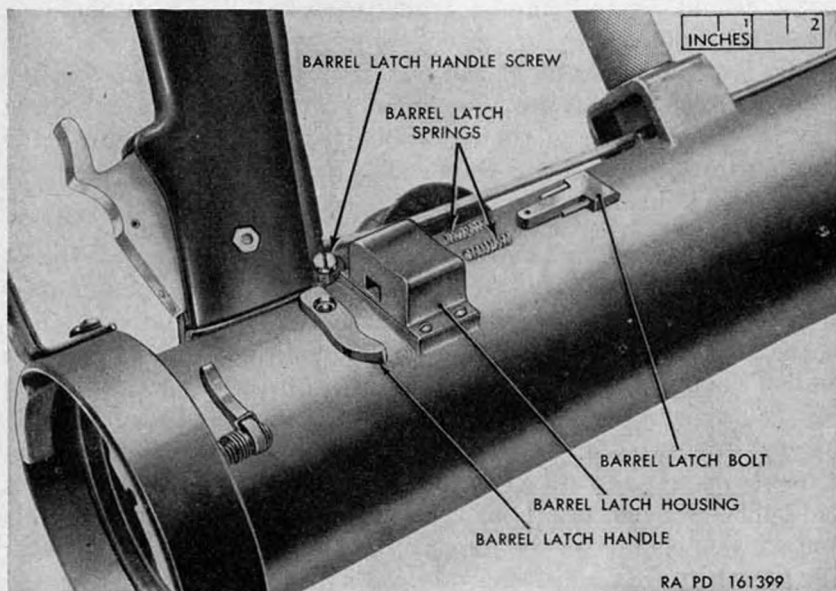
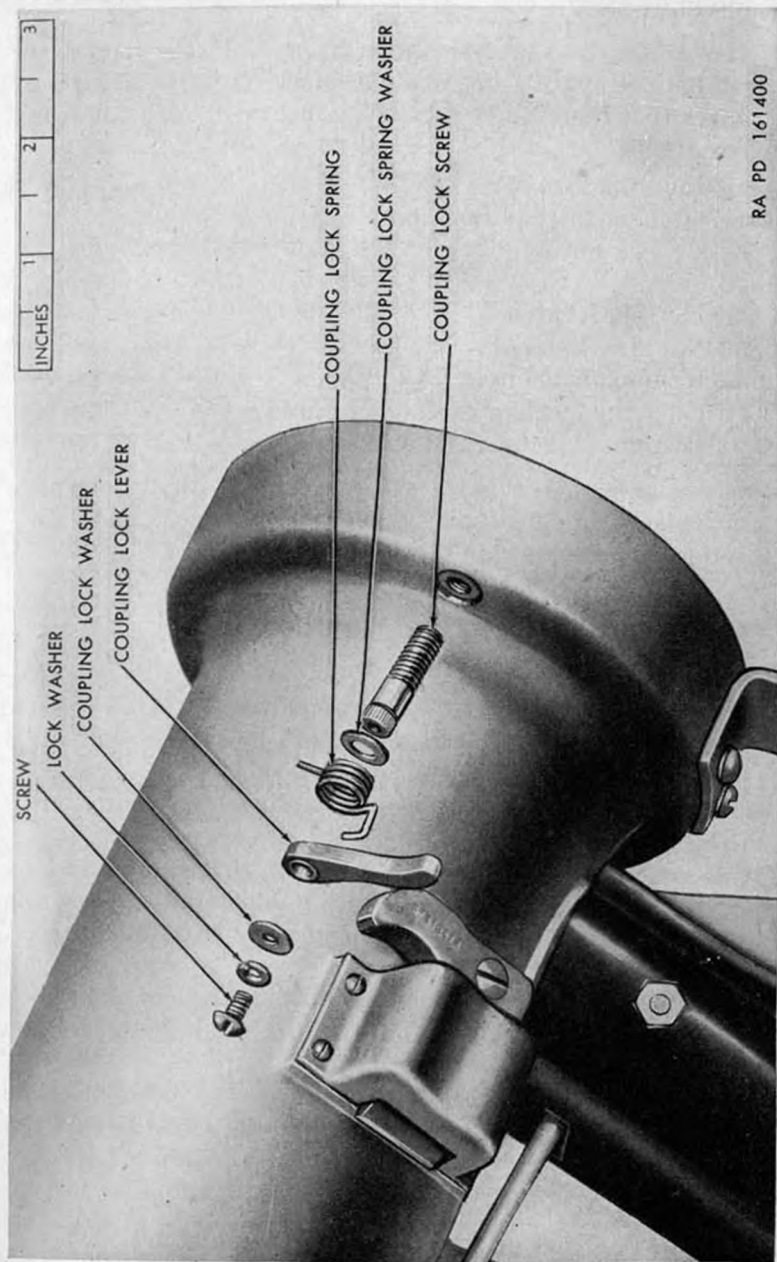

Figure 30. Barrel latch parts.
Figure 31. Barrel coupling lock parts.
b. *Barrel Latch* (fig. 30). The barrel latch bolt operates under spring tension and is housed in a frame (on launcher M20), or a housing (on launcher M20B1). The frame is fastened flush to the rear barrel of the M20, while on the M20B1 the housing mounts on
c. Barrel Coupling Lock. The barrel coupling lock (fig. 31) should be disassembled for cleaning and lubrication only.
- (1) Remove the screw and lock washer. This frees the coupling lock washer, retaining the coupling lock lever.
- (2) Unhook the coupling lock spring from the coupling lock lever and carefully tap the lever off the screw.
- (3) Remove the spring and washer; then unscrew the coupling lock screw.
a. Barrel Coupling Lock (fig. 31).
- (1) Screw the front barrel into the rear barrel.
- (2) Screw the coupling lock screw into its tapped hole until it prevents rotation of the front barrel.
- (3) Slip the washer and then the coupling lock spring on to the coupling lock screw.
- (4) Assemble the coupling lock lever on to the coupling lock screw in locked position (pointing down and faced so the curvature, at the end, is pointing away from the barrel).
- (5) Hook the spring over the lever.
- (6) First slip the lock washer and then the coupling lock washer on the screw so that the lock washer engages the head of the screw.
- (7) Install the screw, with its two washers, in its tapped hole on the coupling lock screw. Tighten the screw so that the lever is clamped firmly.
b. Barrel Latch (fig. 30).
- (1) Slip the springs on the pins of the barrel latch bolt.
- (2) Insert the barrel latch bolt into the frame or housing and fasten the barrel latch handle to the bolt with its screw. Tighten the screw securely.